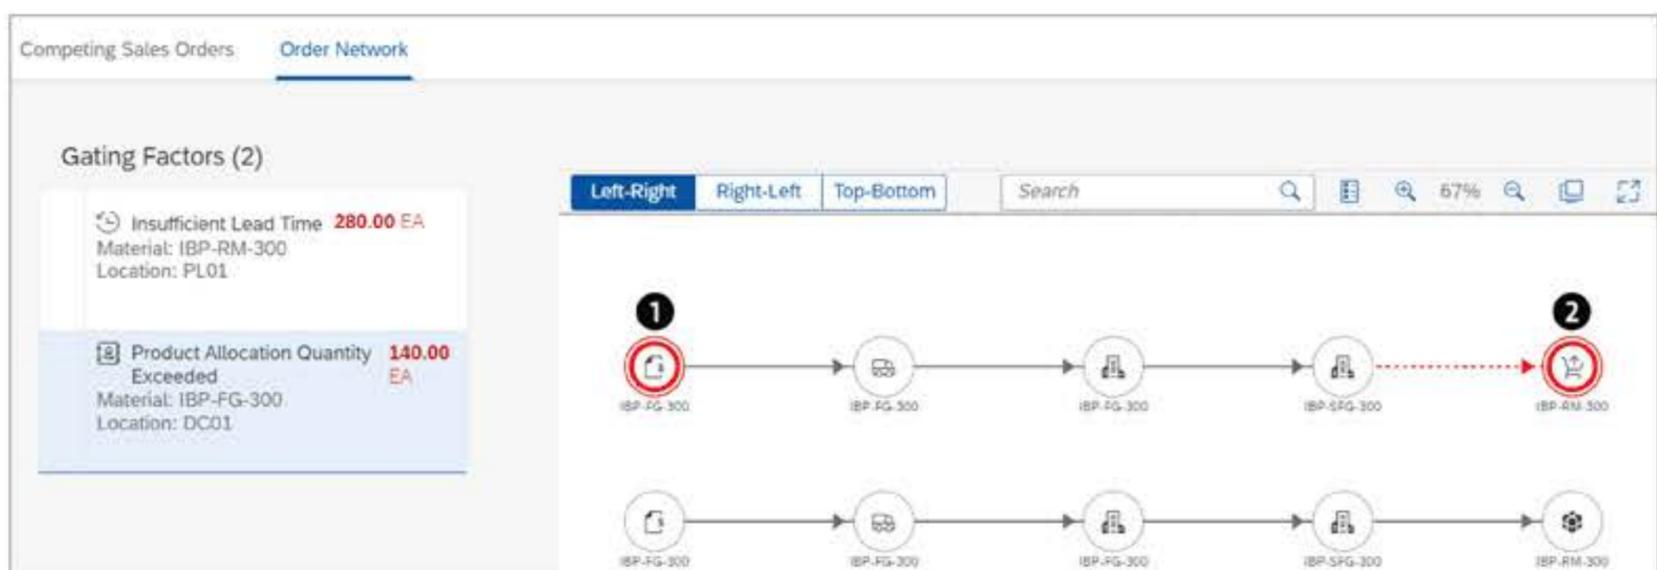

Figure 3.9 Order Network Display Graphic View
You can also review the constraints in a graphic, as shown in Figure 3.9. ❶ and ❷ show the constrained supply chain network nodes. The constraint details in terms of quantity and date are available after clicking on these nodes.